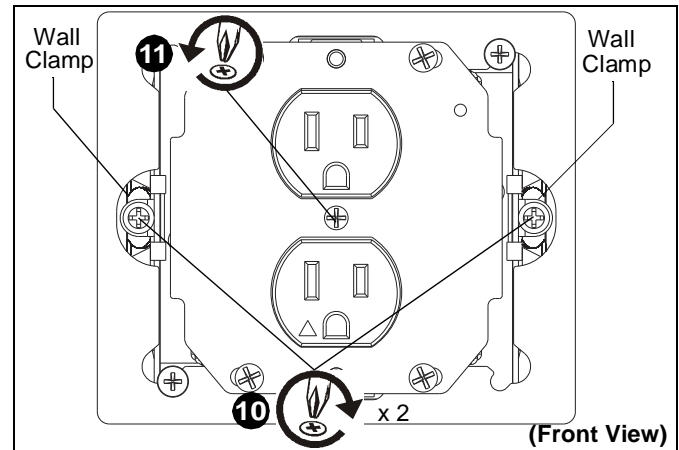

Figure 7
10. Tighten screws on the two drywall clamps so that they are locked in place against the drywall, and not laying flat against the EGX-SF2. (See Figure 7)
11. Remove Phillips flat head screw and locking washer from in between outlets. (See Figure 7)